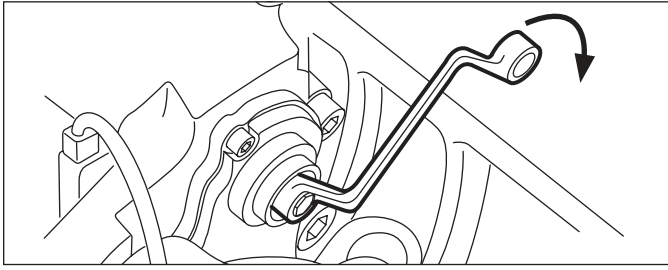

Figure 40 – Running Clearance Adjustment
- 5.2.18 Using a 10 mm, six-point box-end wrench, turn the shear adapter (61) **clockwise** until the pads contact the rotor. Note: Do not use an open-ended wrench as this may damage the adapter. (See Figure 40).